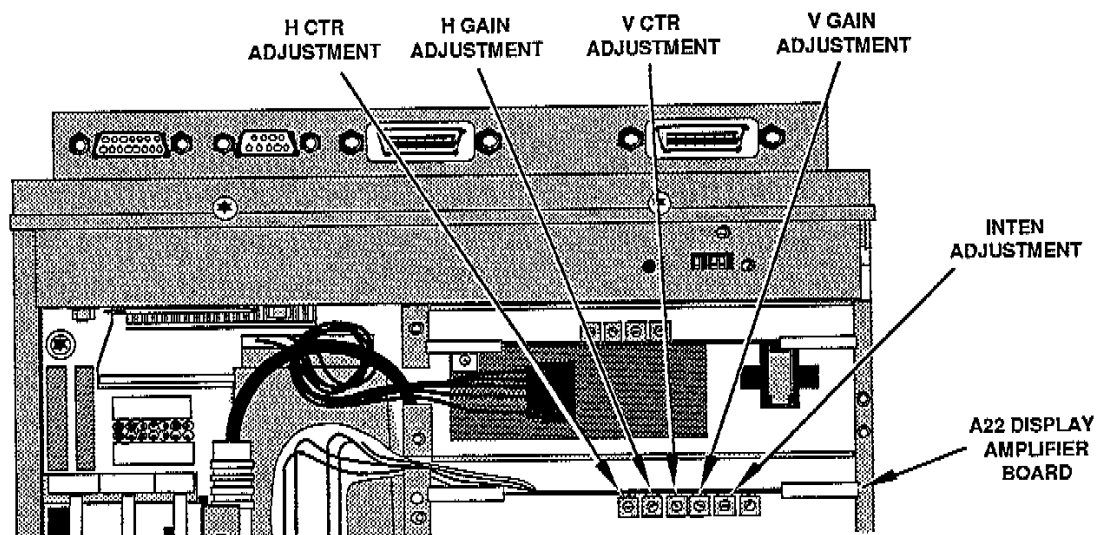

Figure 3-5. Display Amplifier Board adjustments.
6. Adjust the INTEN adjustment on the Display Amplifier board (see Figure 3-5) until there is no degradation of character continuity (that is, until there are no tails or broken segments). This setting constitutes the maximum intensity level that can be set from the front panel.
2. Adjust the VGAIN adjustment (vertical display width) and the V CRT adjustment (vertical display position) on the display amplifier board (see Figure 3-5) as follows:
1. Adjust the HGAIN adjustment (horizontal display width) and HCTR adjustment (horizontal display position) on the display amplifier board (see Figure 3-5) so that the left and right sides of the CRT display extend to within 0.125 inch (3.0 millimeters) of the left and right sides of the CRT screen, respectively.